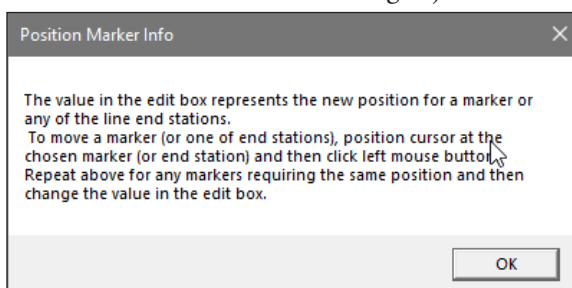

Figure 5.12 Position Marker Info message box
- Click the Info button to display related help information (Figure 5.12).